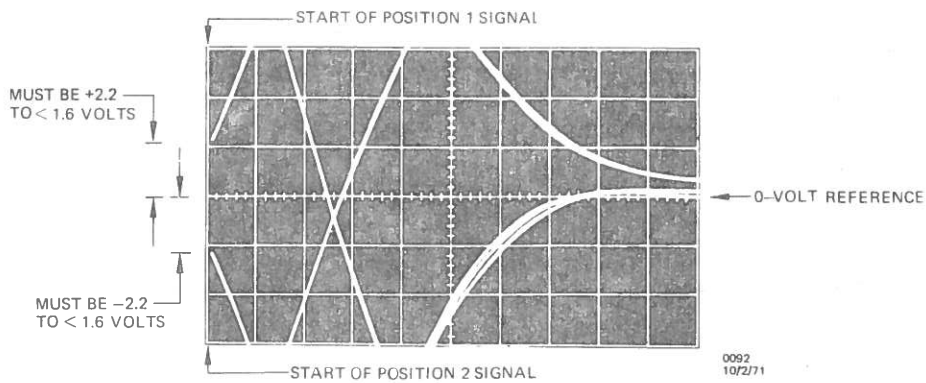

Figure 6-19. Cylinder Width Check, Positions 1 and 2 Signals
3. Observe start of combined position 1 and 2 signal for both access directions. Start of Position signal between cylinders should appear on scope at + 1.6 volts from horizontal centerline. See figure 6-19.